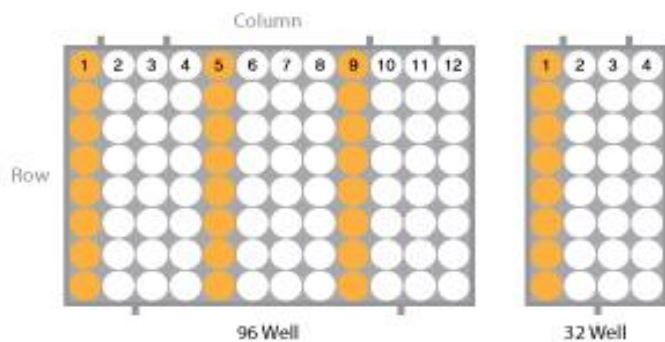

Figure 2: Samples wells (marked in orange) in respect to the Plate type
3. Dispense 200µL of sample and 40µL of Proteinase K into the samples wells (in a 96 wells plate: apply samples to the 1st, 5th, and 9th columns; in a 32 wells plate: apply samples to the 1st column) of the figure extraction plate (See figure 2).